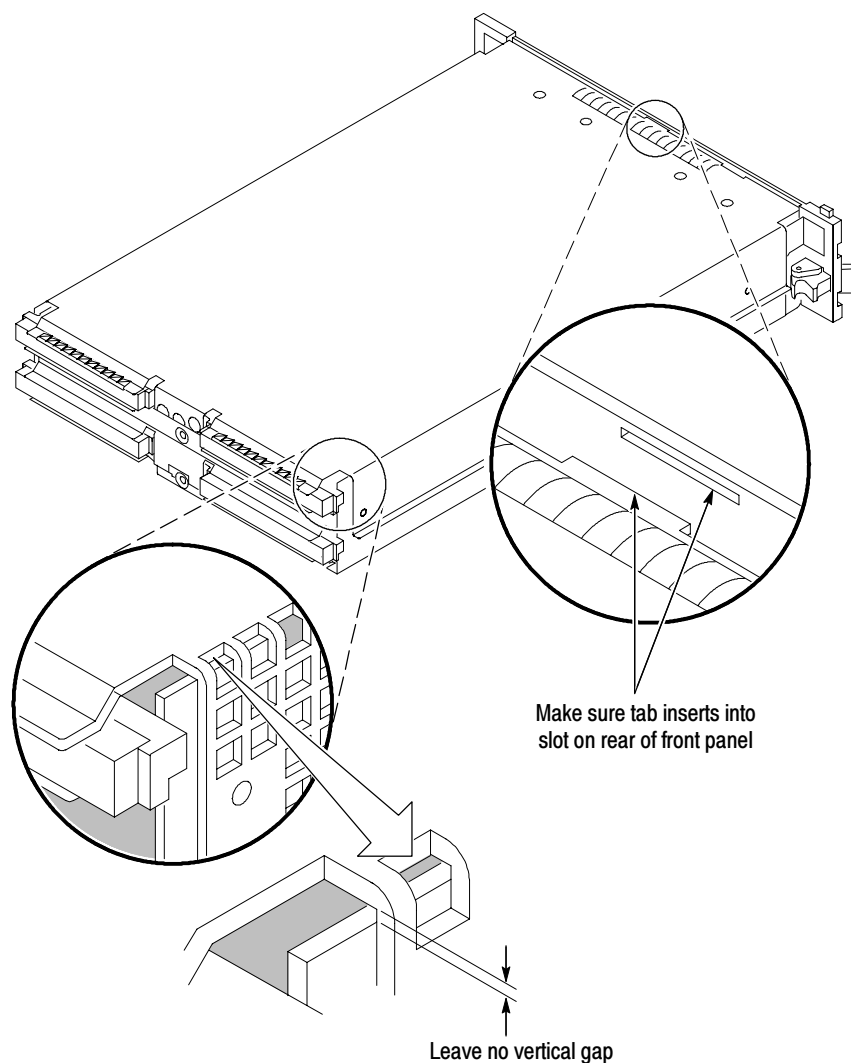

**Figure E-7: Seating the cover on the chassis**
6. Push forward on the cover so that you insert the tab on the front edge of the cover into the rear of the front subpanel. Make sure that the cover is fully seated and there are no gaps between the front and rear chassis flanges; refer to Figure E-7.